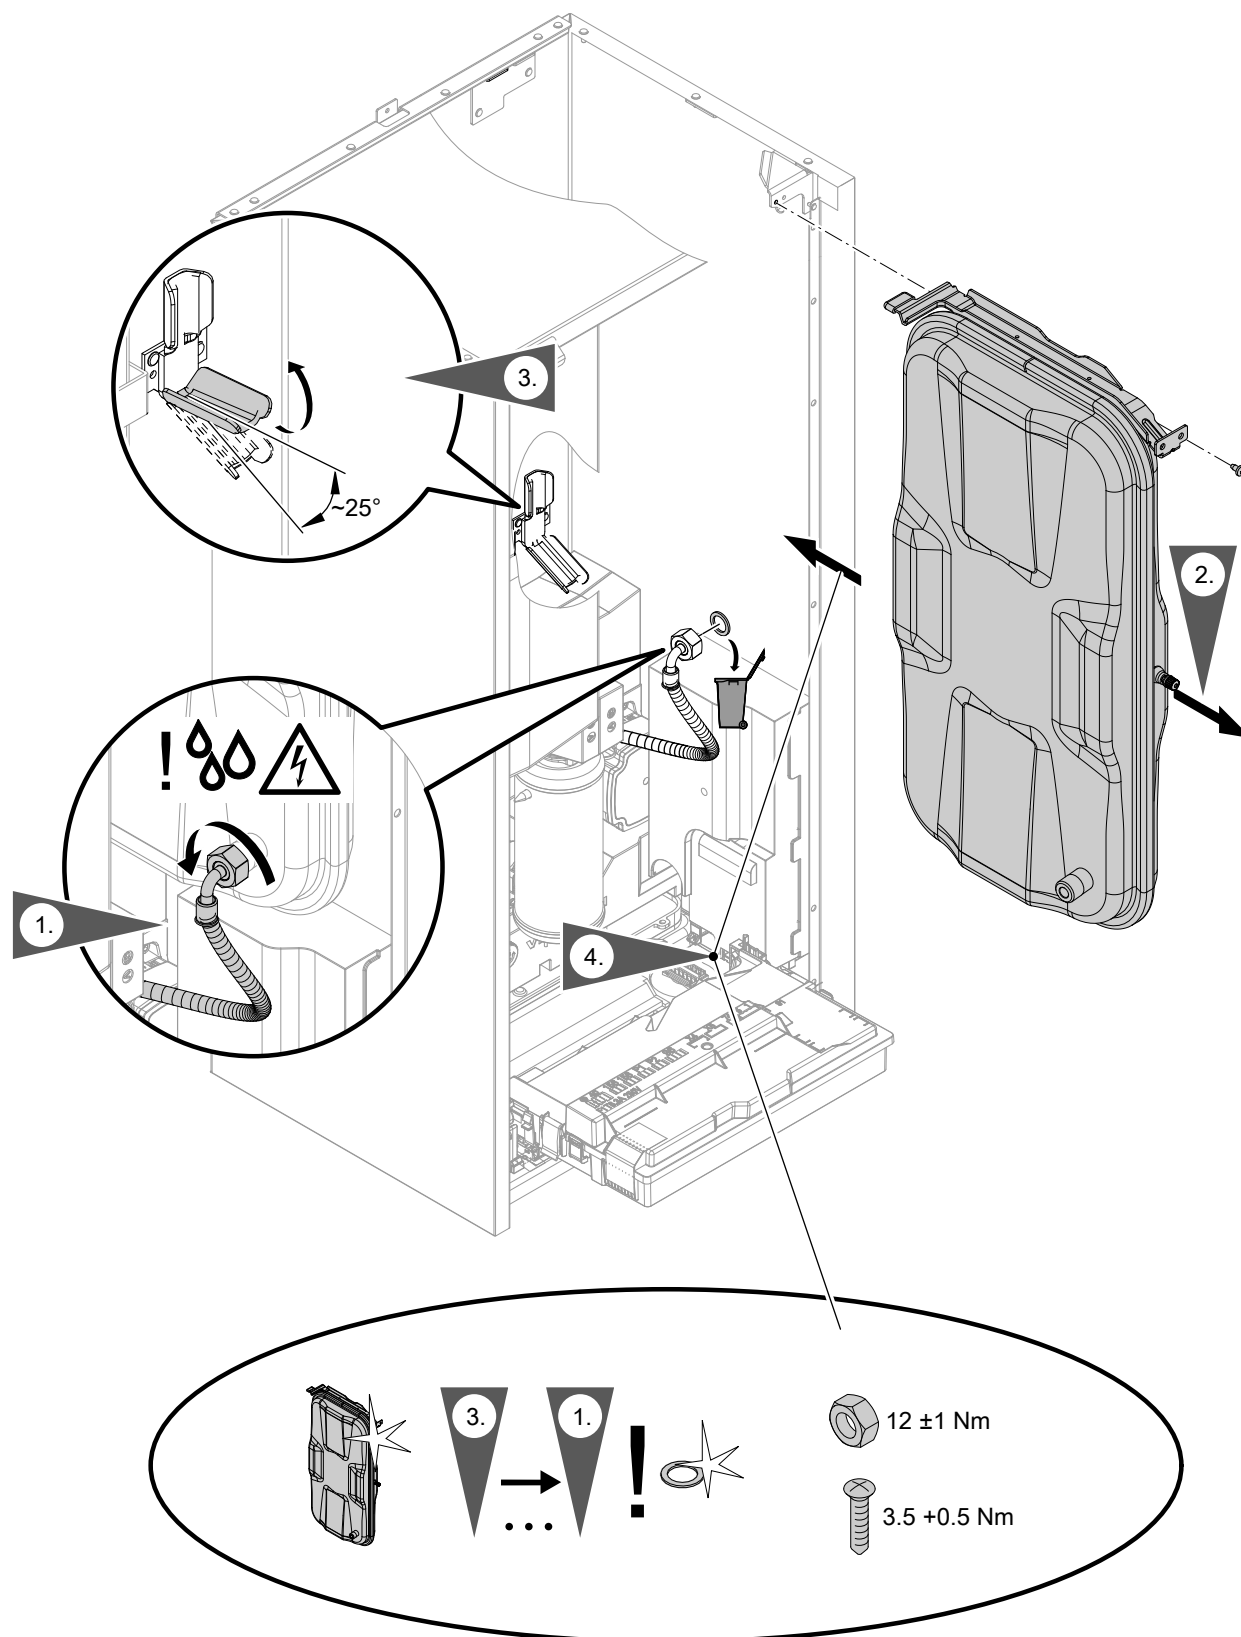

Fig. 85
- Expansion vessel: See Fig. 85.